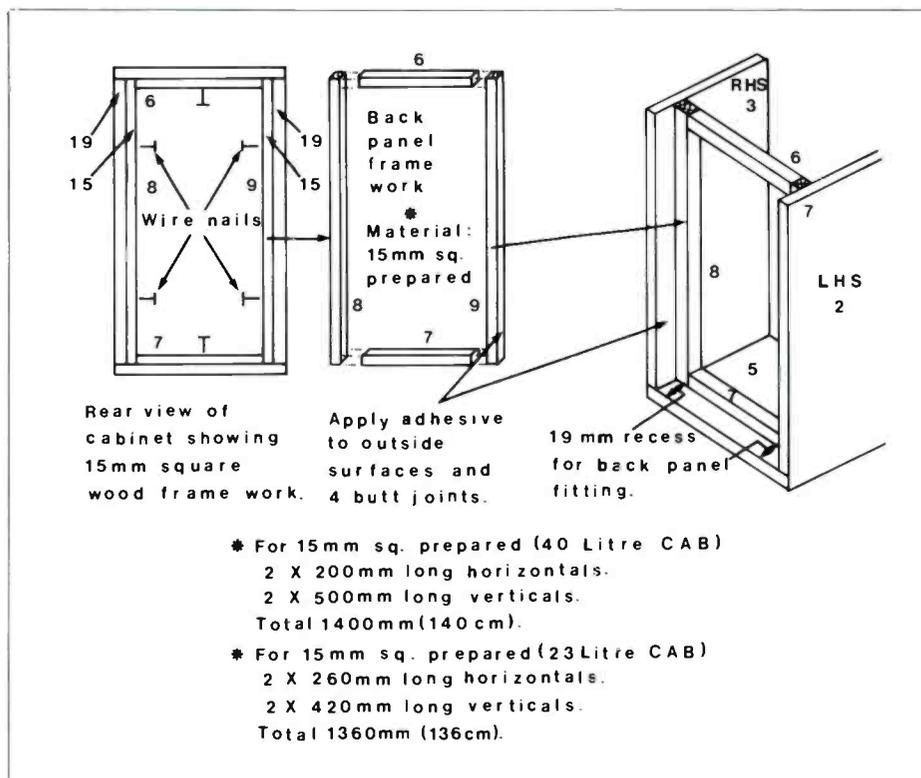

Figure 10. Back panel framework.
Figure 10 shows a simple wood framework which is glued and pinned inside the cabinet, and holds the back panel (1) in place. Both longer (8 & 9) verticals are the same length as panels (2 & 3) but horizontals (6 & 7) must be cut to lengths determined by their thickness. Dimensions given are for 15mm square prepared and should be the thinnest material used; thicker material will mean shorter lengths for (6 & 7) accordingly.